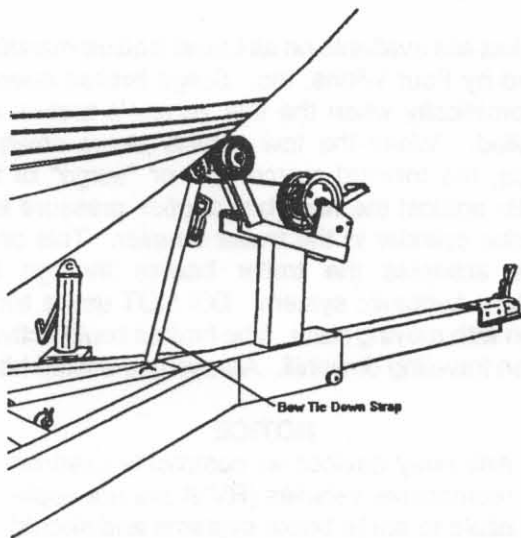

Figure L3
1. Bow Tie-downs: A bow stop to hold the front of your boat in place is located on the winch stand. It should be positioned so that the winch line pulls straight and is parallel to the trailer frame. A separate tie-down should then be attached to hold the boat. See Figure L3.